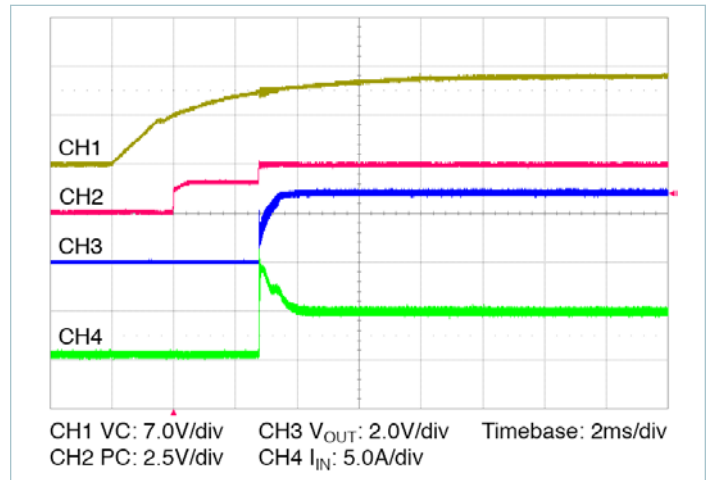

Figure 14 — Start up from application of VC;  $V_{IN}$  pre-applied  $C_{OUT} = 16000\mu\text{F}$
- **Stand-alone operation (VC applied after  $V_{IN}$ ):** In this case the VTM output will begin to rise upon the application of the VC voltage (See Figure 14). The Adaptive Soft-Start Circuit may vary the output rate of rise in order to limit the inrush current to its maximum level. When starting into high capacitance or a short, the output current will be limited for a maximum of 1200 $\mu$ s. After this period, the Adaptive Soft-Start Circuit will time out and the VTM module may shut down. No restart will be attempted until VC is re-applied or PC is toggled. The maximum output capacitance is limited to 16000 $\mu$ F in this mode of operation to ensure a successful start.